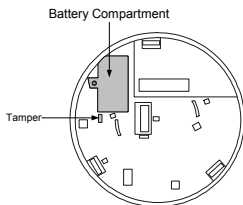

Figure 8: Batteries Compartment/Tamper
- ◆ Dead air spaces are often at the top of a peaked roof, or in the corners between ceilings and walls. Dead air may prevent smoke from reaching a detector. See Figures 8 and 9 for recommended mounting locations.
- ◆ Open the batteries compartment cover (see *Figure 8*).